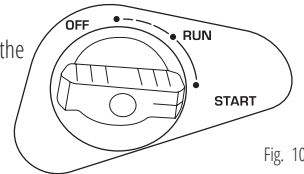

Fig. 10
4. Turn the air choke control knob to the "OFF" position (Fig. 10), for dual fuel models - move the fuel switch to the OFF position/ close LPG supply valve.